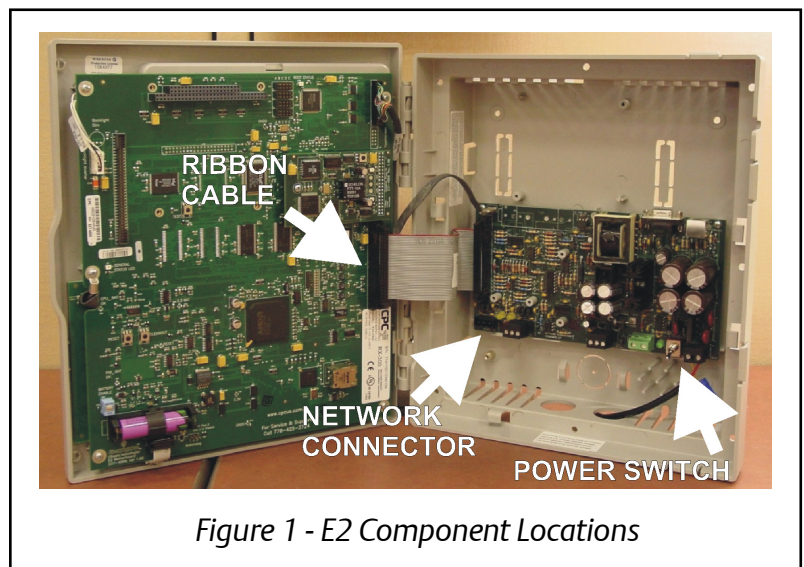

Figure 1 - E2 Component Locations
4. Locate the ribbon cable connecting the processor board with the PIB. If this E2 has not yet been upgraded, the cable will be gray with one red stripe along the top edge of the cable, as pictured in *Figure 1*; proceed with step 5 to replace this cable. If the cable on the E2 has a vertical blue stripe on both ends next to the connectors (similar to the 335-3906 cable in the kit), **this E2 has already been upgraded and you will not need to replace the ribbon cable.**